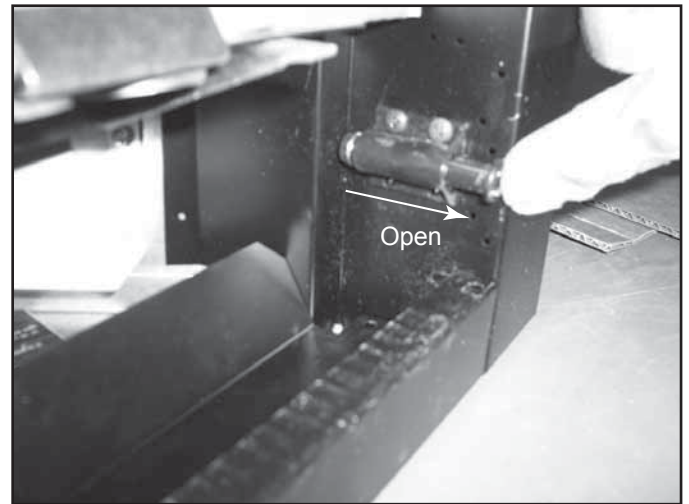

Figure 11.17 Magnetic Touch Latch Open
- Make sure the screen magnetic touch latches are in the open position. See Figure 11.17.